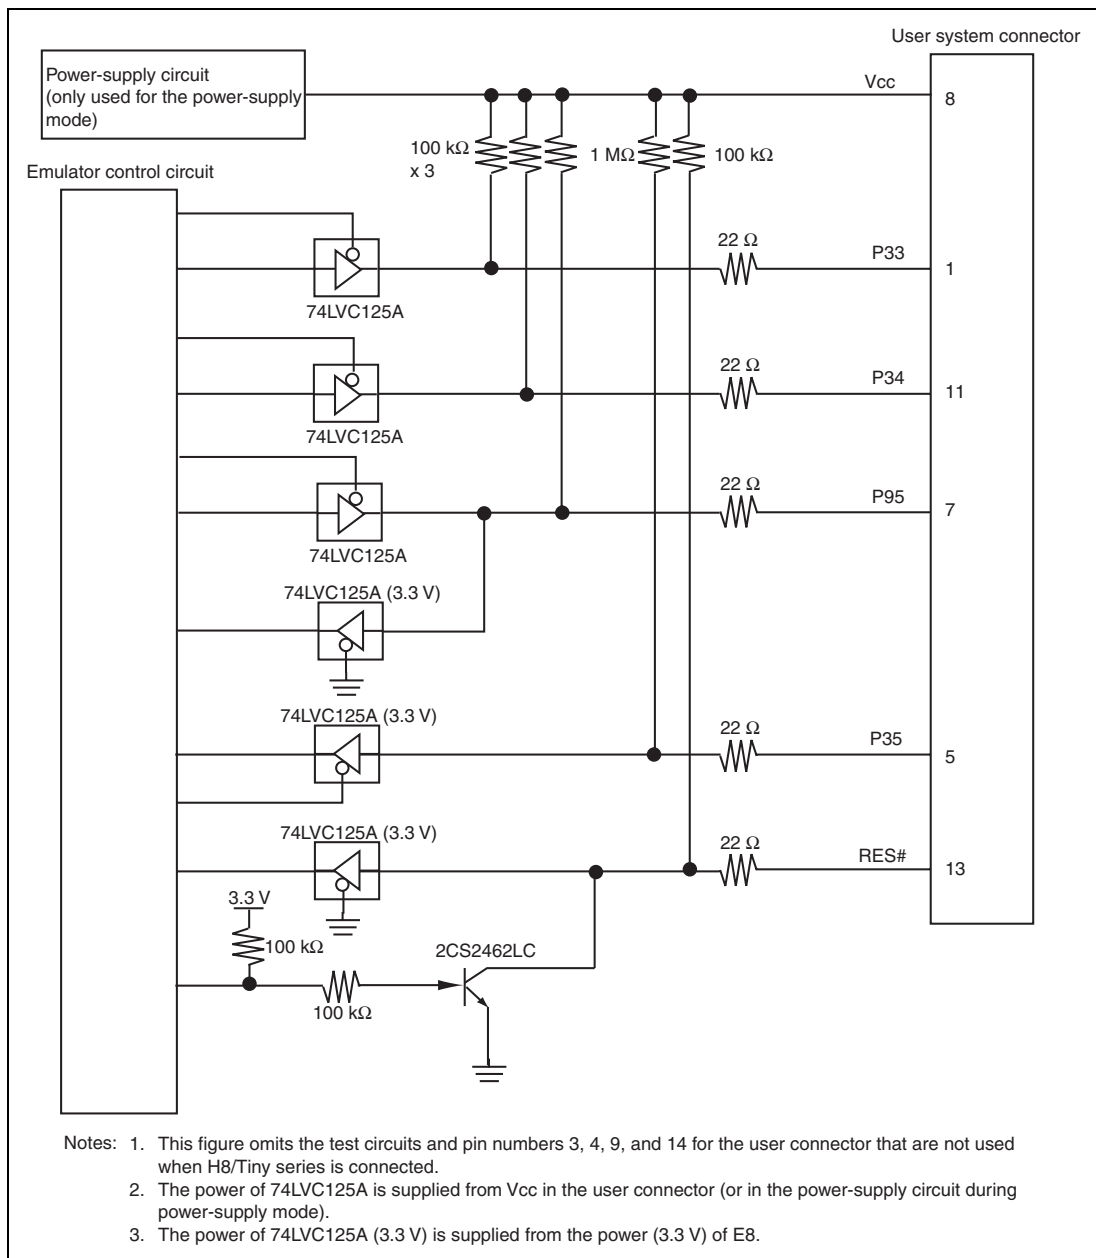

Figure 4.5 Interface Circuit in the E8 Emulator (Reference)
6. Figures 4.5 and 4.6 show the interface circuit in the E8 and E8a emulators, respectively. Use these figures as references when determining the pull-up resistance value.